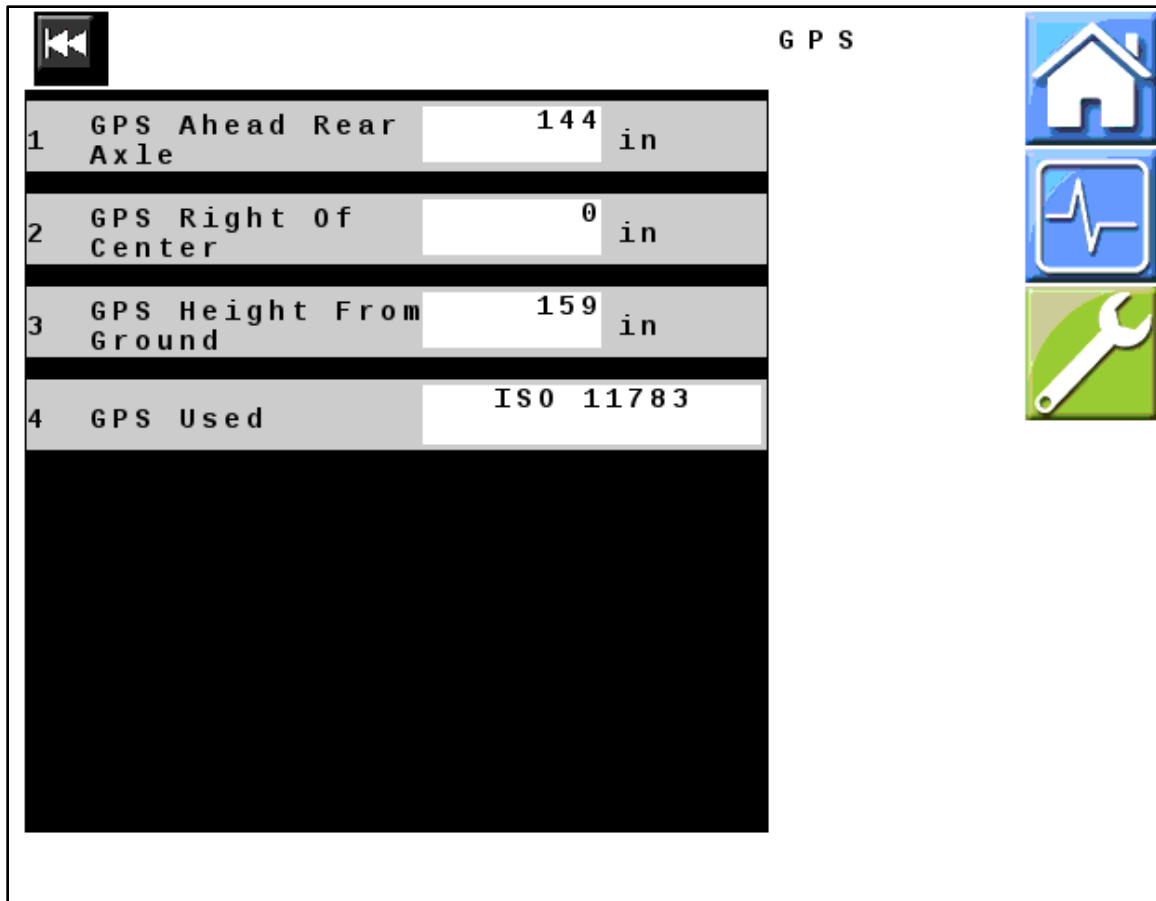

Figure 22 — GPS
39. *Figure 22:* Select the type of GPS from the list of available options. Not all of the options listed here may show on your system. Only the types available for your system will show on your list.